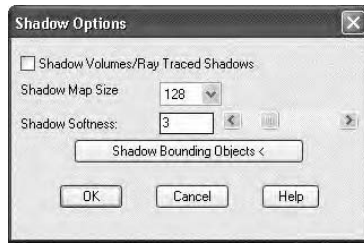

FIGURE A.33: The Shadow Options dialog box
3. In the Shadows area, put a checkmark in the Shadow On box. Then click the Shadow Options button to open the Shadow Options dialog box (see Figure A.33).